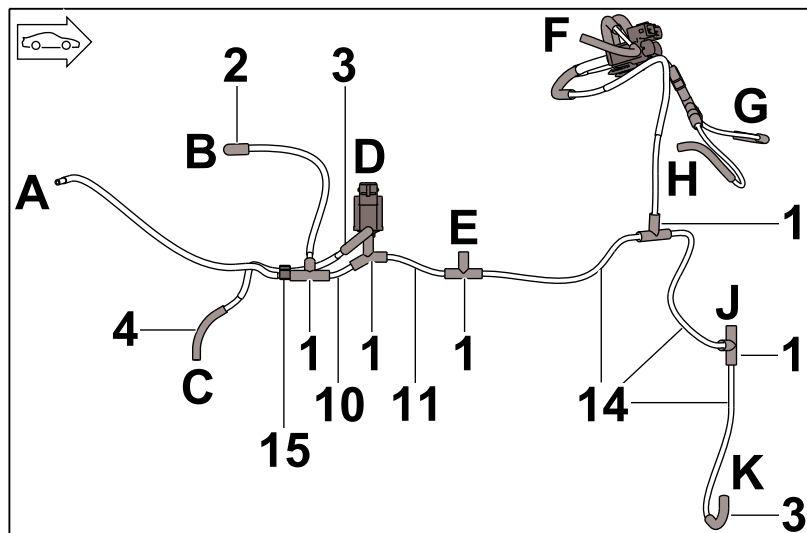

Figure 20
- Vacuum system; top view: ⇒ *Figure 20*